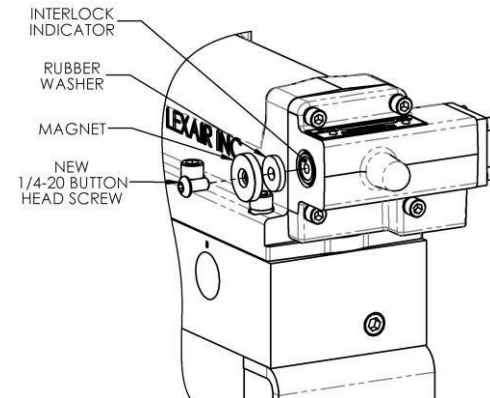

FIGURE 2
5.2.4. Using the new parts provided in the kit insert the new **BUTTON HEAD SCREW** through the center hole of the **MAGNET** and the new **RUBBER WASHER** as shown in Figure 2.